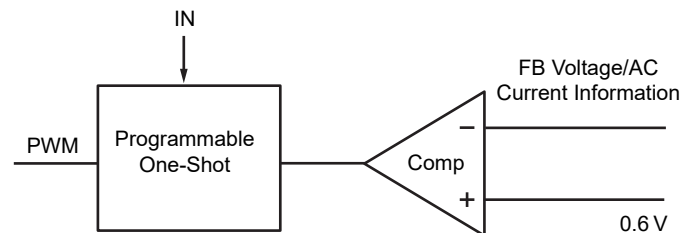

Figure 2. Simplified Control Schematic of AOZ2151LQI-30
The control algorithm of AOZ2151LQI-30 is constant-on-time PWM control with input feed-forward. The simplified control schematic is shown in Figure 2. The high-side switch on-time is determined solely by a one-shot whose pulse width is inversely proportional to input voltage (IN). The one-shot is triggered when the internal 0.6V is higher than the combined information of FB voltage and the AC current information of inductor, which is processed and obtained through the sensed low-side MOSFET current once it turns-on. The added AC current information can help the stability of constant-on time control even with pure ceramic output capacitors, which have very low ESR. The AC current information has no DC offset, which does not cause offset with output load change, which is fundamentally different from other V^2 constant-on time control schemes.